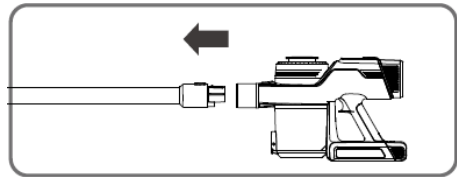

Figure 2
- To remove the aluminum tube, hold the housing main with one hand and pull it out with the other hand by pressing the button. (Figure 2)